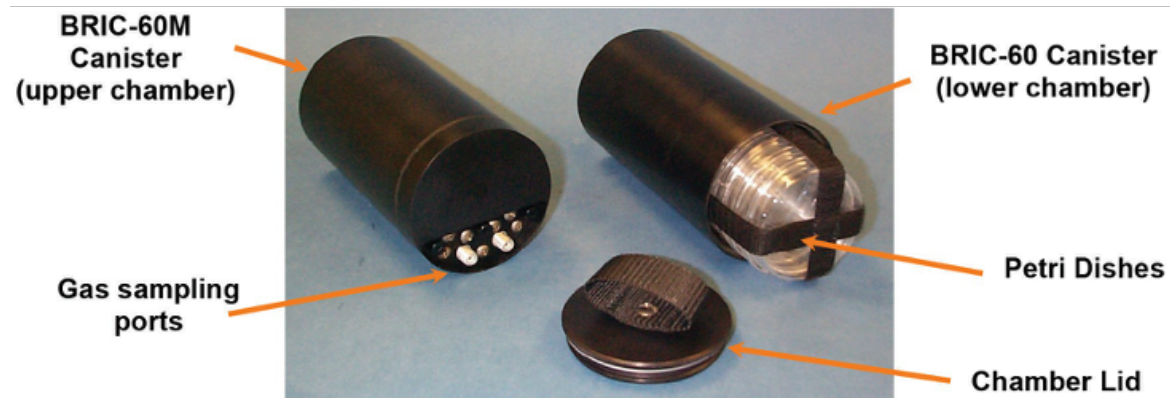

Fig. 1. BRIC-60 & BRIC-60M with petri dish configuration. Teflon sample tubes.
- The BRIC-60 unit requires **no operational power** and consists of both an upper and lower chamber (Fig. 1). Two optional configurations are available with capabilities of flying as a half canister (lower chamber + chamber lid) or full canister (upper chamber + lower chamber + chamber lid).
- The BRIC-60 modified (**BRIC-60M**) includes **2 gas sampling ports** capable of drawing gas from two locations within the sealed canister (Fig. 1).
- BRIC-100 canisters have threaded lids on each end that allow for a **breathable configuration** (Fig. 1).